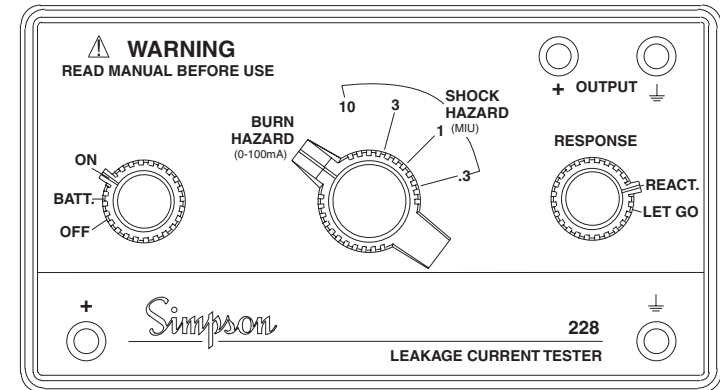

Figure 9
4. Turn Function Select switch to **BURN HAZARD** (see Figure 9, page 15).
1. Turn Function Select switch to **BURN HAZARD** (see Figure 9 below).